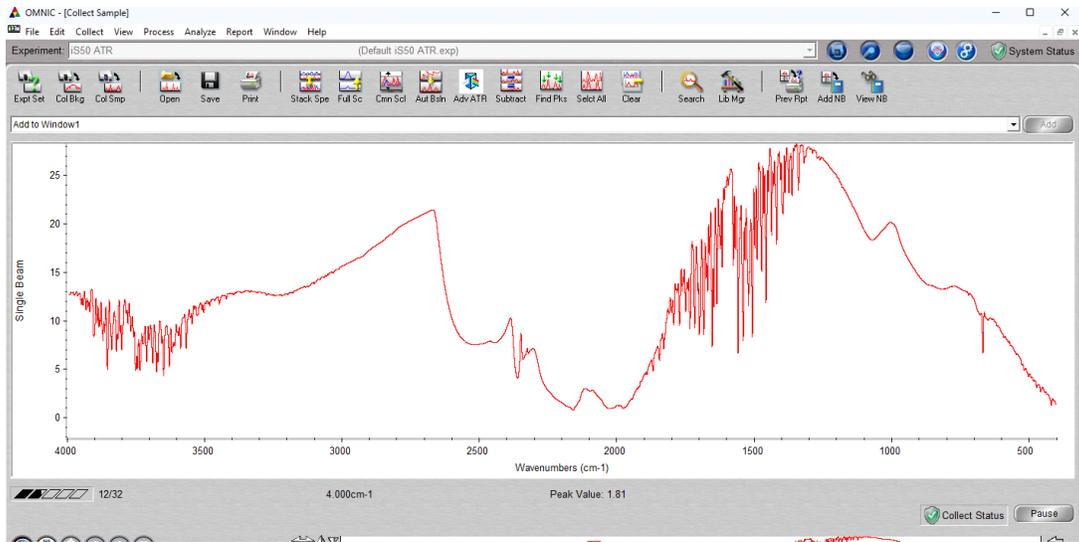

Figure 17. Background Sampling completion data
13. As default, background collection before each sample was selected. Click “Ok” to get the background signal (in this case air, no sample). The background collection signal will look like Fig 17 below for air.